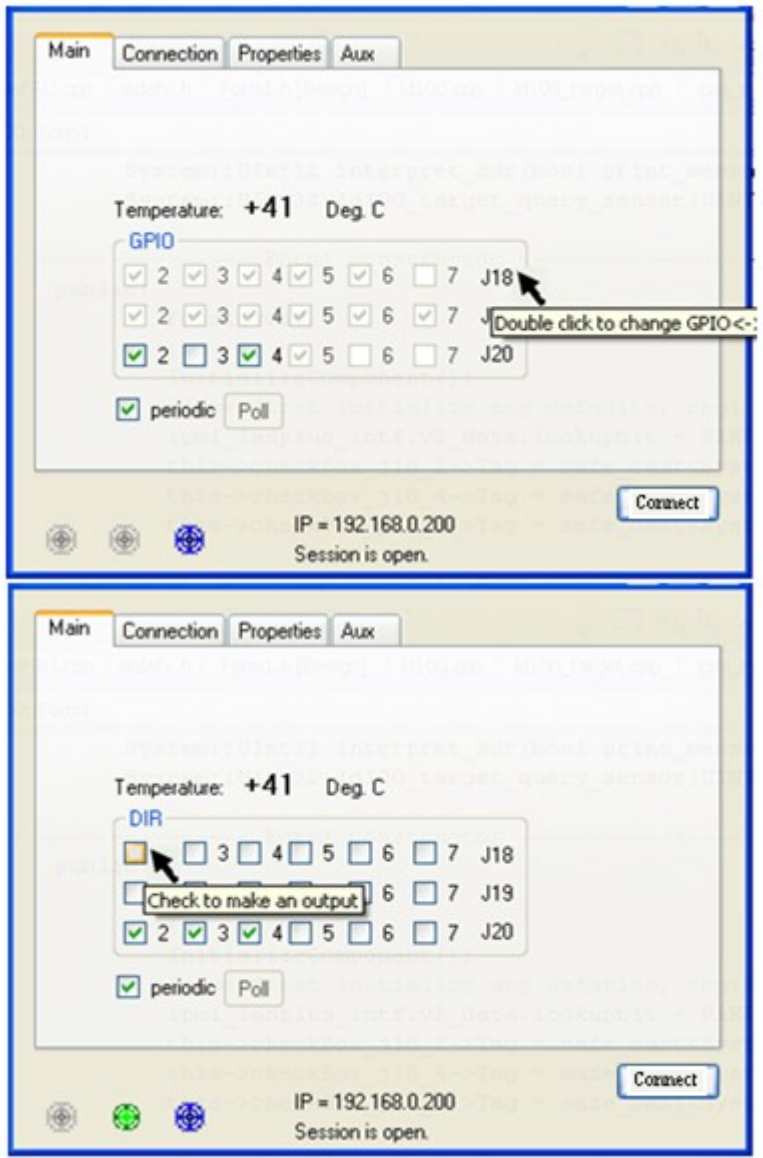
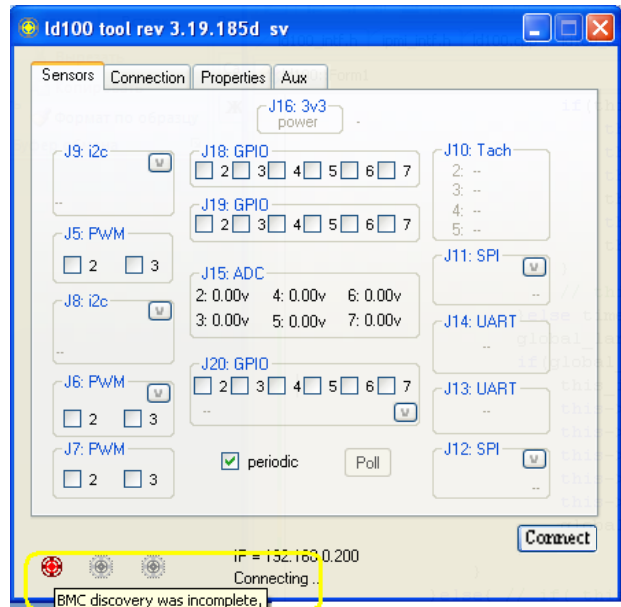

Fig.3 The “Main” Id100\_tool GUI tab.
Fig.4 Customized LD100\_tool, the “Main” tab: “sea of sensors” firmware project (errors display is shown)
- Fig.3 description (J20.2, J20.4 GPIO) fixed
Note: the Red LED example is shown on the Fig.4 below, the error provider icon is not shown.
Pins J20.2, and J20.4 are connected to on-boards LEDs: LED\_ERR, and LED\_ACTIVITY respectively. They normally come up configured as outputs, at Id100 device power up (Fig.3). The user may reconfigure them to inputs if required using LD100\_tool.
Note: the “Main” tab shown on the Fig.3 reflects general LD100 controls. The GUI might have more controls shown if customized Id100 firmware is discovered on the Platform (Fig.4)
Note: if session activity is guaranteed (for example sensors are being polled periodically: Fig.4) then no additional activity to keep connection is required.